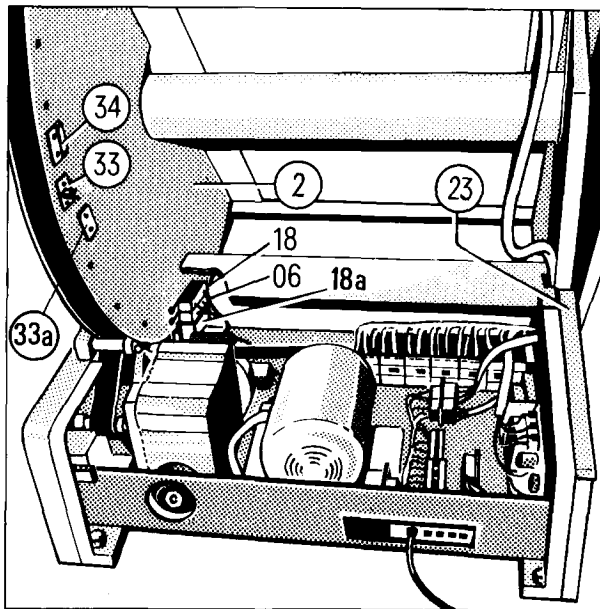

Fig. 18
- Reinstall segment cover (Fig. 18/item 2).
- Check safe function of the switching rod (Fig.18/item 23). Therefore drive table into horizontal position and turn off power. Jumper switch 06 in Fig.18. Turn on power and continue carefully to drive table into Trendelenburg position. If Trendelenburg position is reached the switching rod (Fig. 18/item 23) must actuate and stop all motions. Drive table into vertical position.